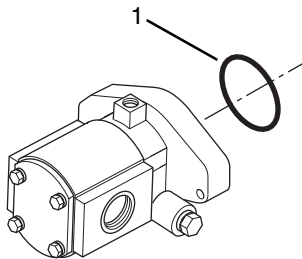

Figure 5-11 Implement Pump O-ring Removal
11. Remove the o-ring (Fig. 5-11, 1) from the implement pump and discard.